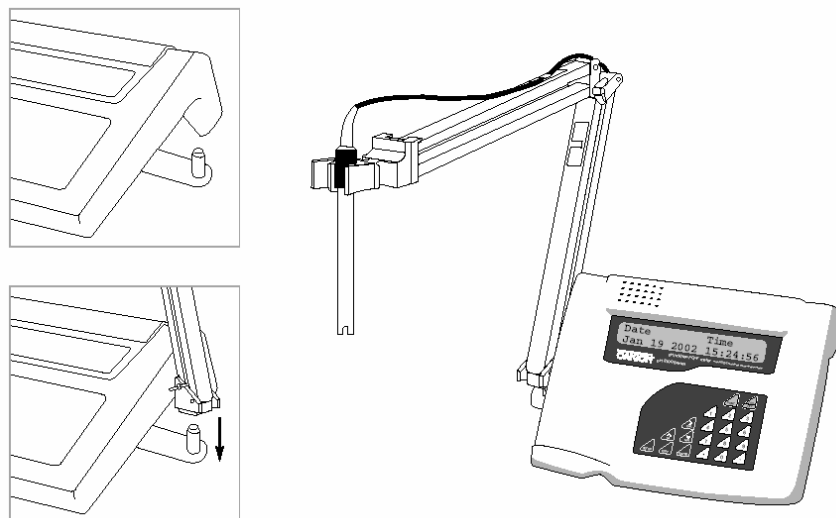

Figure 4: Fix electrode holder arm to holder base
5. To install the electrode arm, turn meter back to the upright position. See **Figure 4**.
6. Line up the hole on the base of the electrode holder arm with the peg on the electrode holder base. Slide the hole securely onto the electrode holder base. See **Figure 4**.